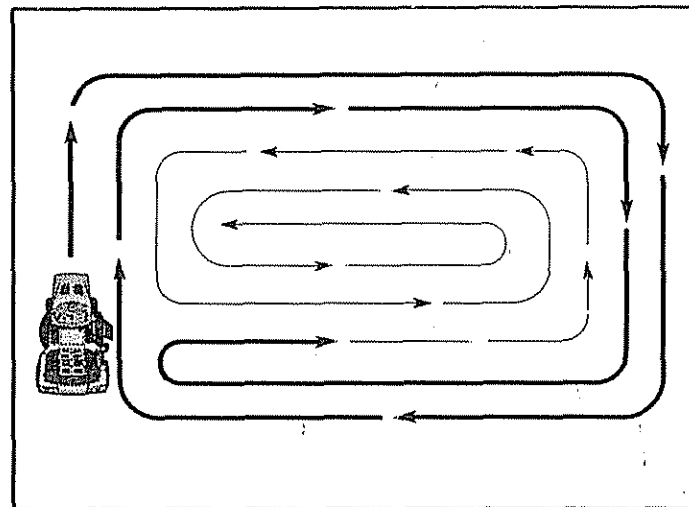

FIG. 17
- When mowing large areas, start by turning to the right so that clippings will discharge away from shrubs, fences, driveways, etc. After one or two rounds, mow in the opposite direction making left hand turns until finished (See FIG. 17).